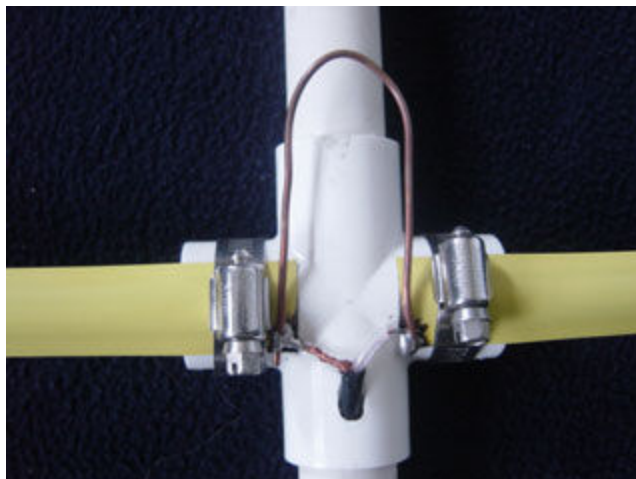

Fig. 2 - The driven element & 'hairpin' match
2. The *driven element* (DE) is 36 1/2" long tip to tip which includes the 1" gap in the center as shown in **Figure 2**. Therefore, the length of each half is 17 3/4". The DE's position is 8" from the reflector (positions are all center to center).
The hairpin match is simply a 6 inch piece of # 12 copper wire bent into the shape shown in **Figure 2** with the sides approximately 1 1/4" apart. It and the coax are soldered directly to the corners of the driven element and that is all there is to the match. Mine tuned <math><1.5:1</math> on the first try but you may have to experiment with the length of the wire or the width of the hairpin.